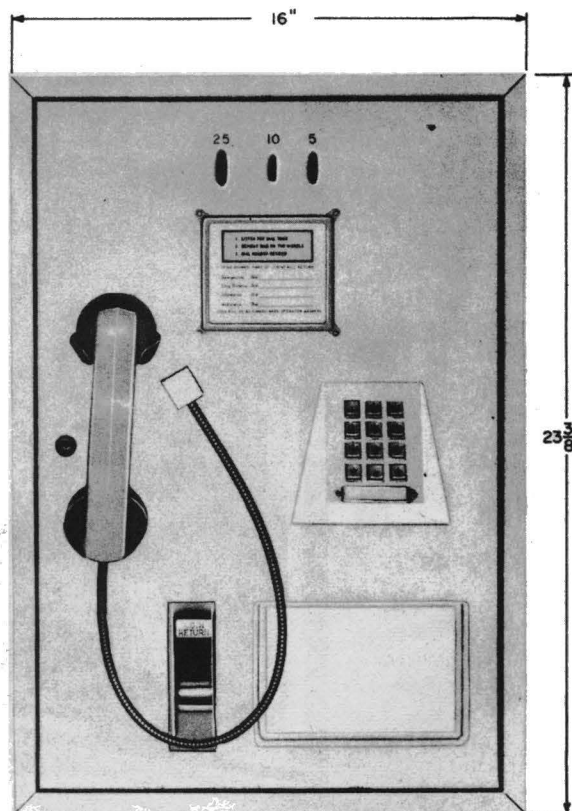
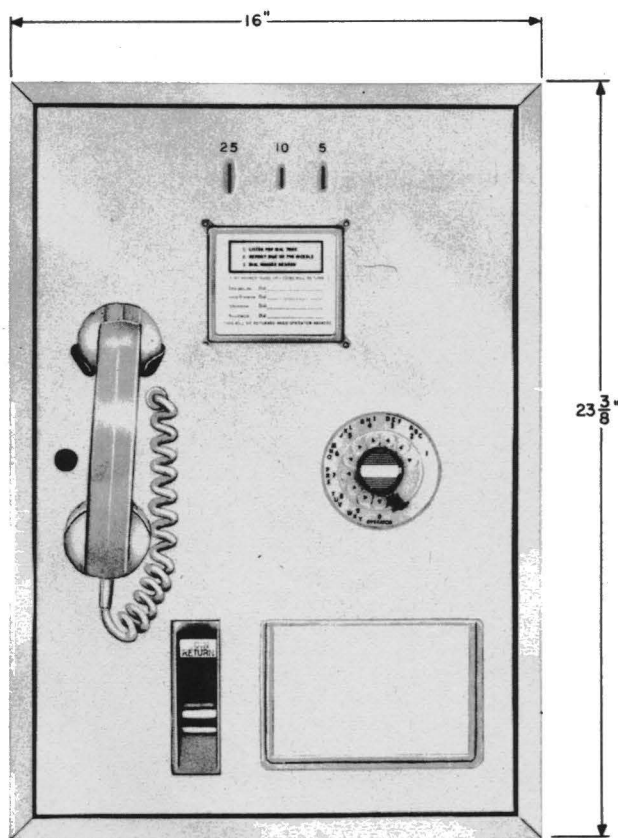
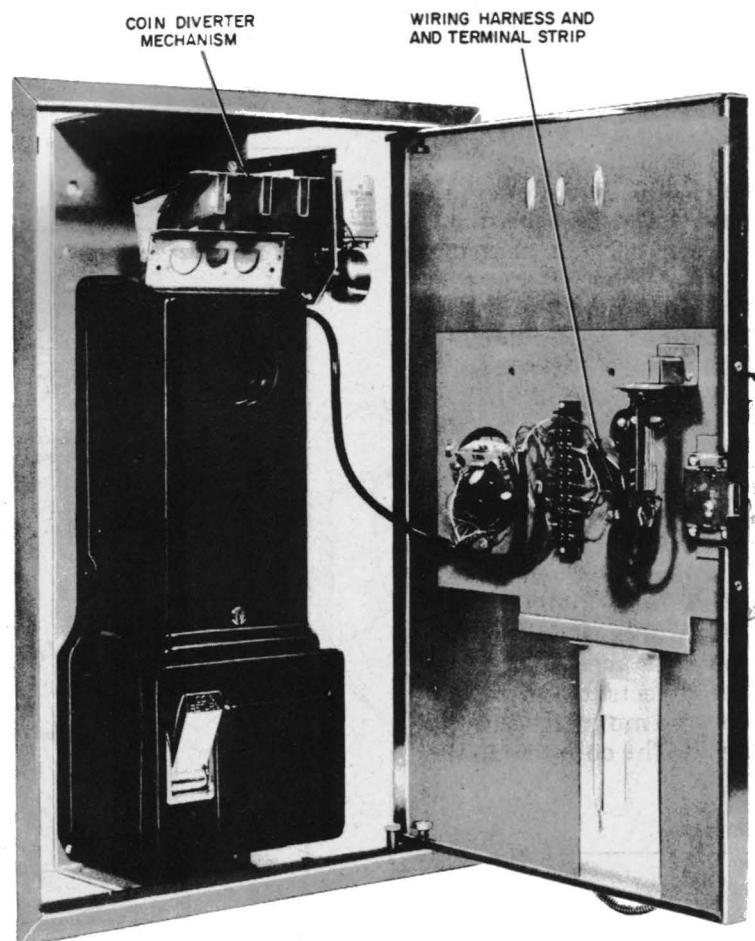

Figure 2. Panel Coin Telephone - Touch Calling Unit Equipped.
Figure 1. Panel Coin Telephone - Dial Equipped.
Figure 3. Coin Telephone and Panel Mounted Components.
2.01 The panel assembly has a stainless steel hinged front cover upon which are mounted a hookswitch, handset, handset cord, two card brackets, and either a dial (see Figure 1) or Touch Calling unit (see Figure 2). Coin slots in the panel assembly door provide access to a coin diverter mechanism which directs coins to the coin chute of the coin telephone mounted directly behind the door (see Figure 3). The coin telephone
is not equipped with a hookswitch, dial (or Touch Calling unit), handset, or coin gauge. A wiring harness and 10-terminal terminal strip are used to connect the coin telephone to the components mounted on the panel assembly door (see Figure 3). A standard coin telephone upper housing key operates the lock on the door. The handset, dial, and cardholders are available in either black, white, or blue. The panel assembly is 23-3/8 inches high and 16 inches wide.